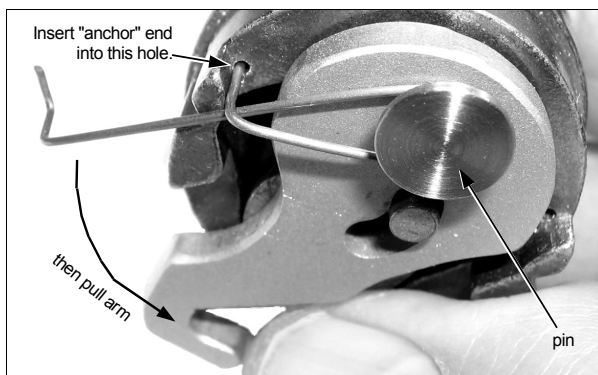

Fig. 2g: Insert pin and spring; pull arm and clip on hook cam lever.
- 2g. Insert the pin/spring through the retractor arm hole while simultaneously inserting the "anchor" end of the spring into the small hole in the cylinder/adaptor. See Fig. 2g.